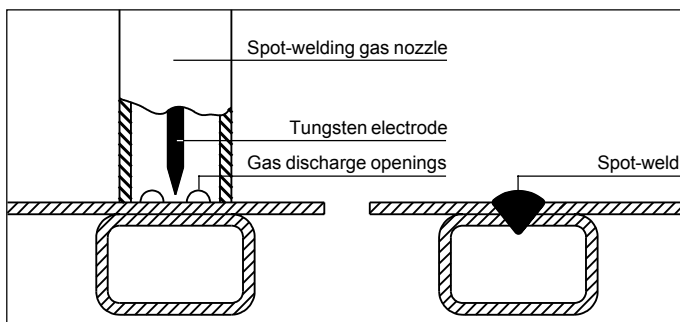

Fig. 22
- LED indicator ⑧ lights up
- Depending on the size of spot-weld required, mount the tungsten electrode approx. 2 - 3 mm back from the edge of the nozzle (Fig. 22).
- Place the torch (i.e. the spot-welding nozzle) on the workpiece (Fig. 22).